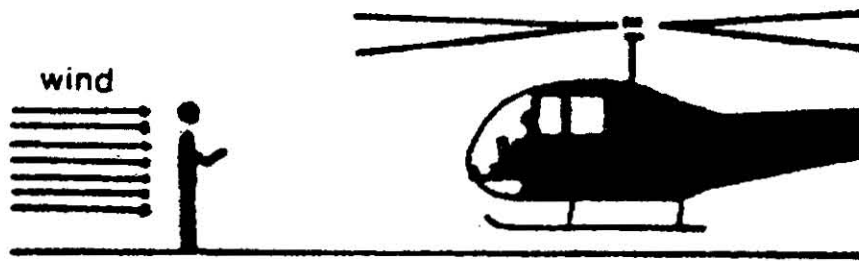

FIGURE 3. SIGNALMAN POSITION
- (1) Personnel should know the hand signals used during an external load operation. (See appendix 2.)
- (2) The signalman should be in a position visible to the pilot and the hookup person, located to one side of the flight path and as close to the operating area as possible with his/her back to the wind. (See figure 3.)